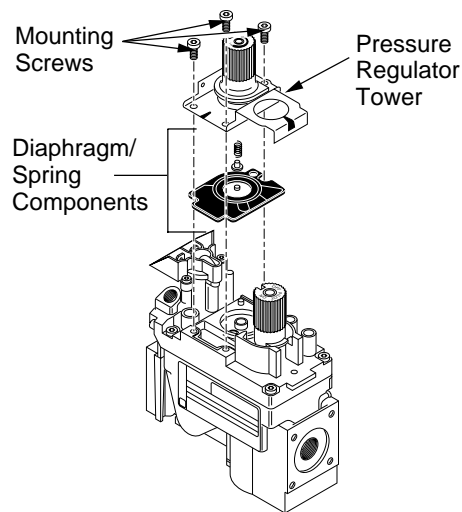

Figure 35 - Removing Parts for Gas Control Valve Conversion
1. Using a TORX T20 or a slotted screwdriver, remove and discard the three mounting screws, pressure regulator tower, and diaphragm/spring components (see Figure 35).